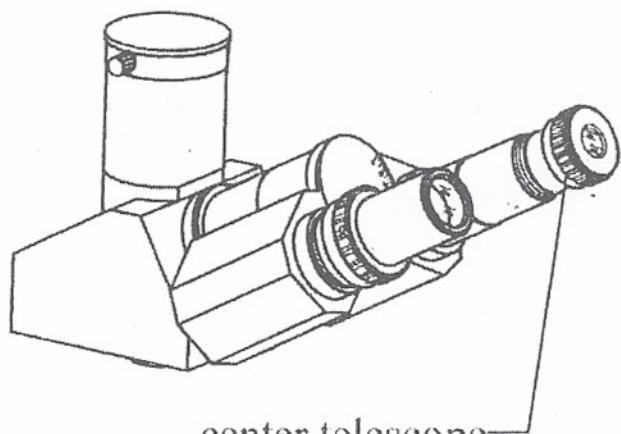

Fig.6
- (3) Turn corresponding multiple phase contrast objective to working position.
- (4) Take out one eyepiece, insert center telescope in eyepiece tube and adjust it, make the image of annular phase plane and annular diaphragm clear.(Fig.6)